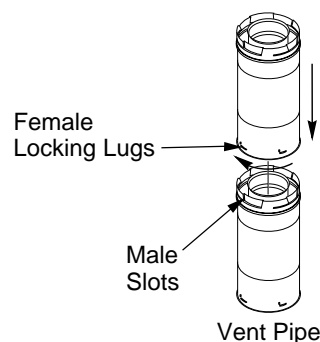

Figure 24 - Vent Pipe Connections
Twist-lock Procedure: The female ends of the pipes and fittings have four locking lugs (indentations). These lugs will slide straight into matching slots on the male ends of adjacent pipes and fittings. (All connections must be sealed with high temperature silicone sealant as specified in the second warning statement on page 12.) Push the pipe sections together and twist one section clockwise approximately one-quarter turn until the sections are fully locked. See Figure 24. *Note:* Horizontal runs of vent must be supported every three feet. Use wall straps for this purpose.
2. Assemble the desired lengths of pipe and elbows necessary to reach from the burner system flue up through the firestop. All connections must be sealed with high temperature silicone sealant as specified in the second warning statement on page 12. Be sure all pipe and elbow connections are fully twist-locked (see Figure 24, page 13).